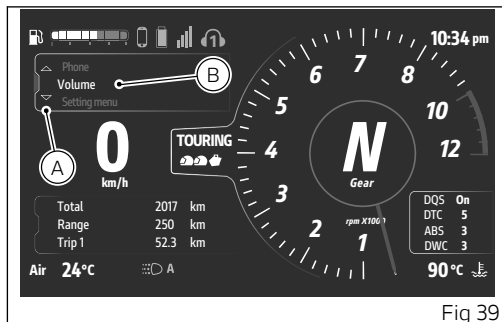

Fig 39
- Select the Interactive Menu (A, Fig 39) by pressing and holding the joystick in position ▲ for a long time.
- Use the joystick ▲ ▼ to select "Volume" (B, Fig 39) and press ENTER.